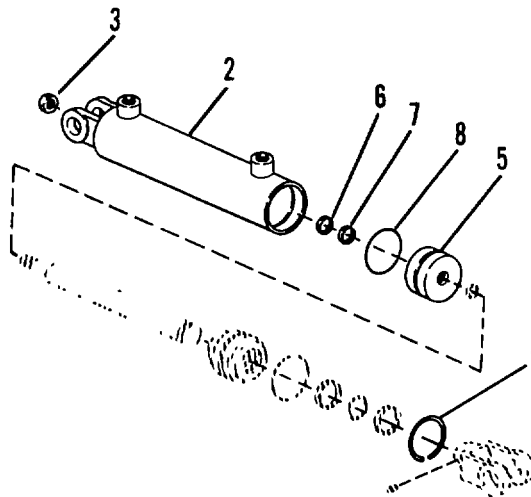

Figure 4-18 . Steering Cylinder Assembly (Sheet 1 of 2) .
- (1) Remove retaining ring (1, Figure 4-18) from piston end of cylinder barrel (2).
- (2) Remove nut (3).
- (3) Remove rod (4) and piston assembly (5) from barrel (2).
- (4) Unscrew piston (5) off rod (4).
- (5) Remove backup rings (6 and 7) and preformed packing (8) from piston and discard.
- (6) Slide cylinder head (9) off rod (4).
- (7) Remove preformed packings (10 and 11), backup rings (12 and 13) and preformed packing (14) from cylinder head (9) and discard.
- (8) Remove rod wiper (15) from cylinder head (9).
- (9) Remove set screw (16) and slide clevis (17) off rod (4).